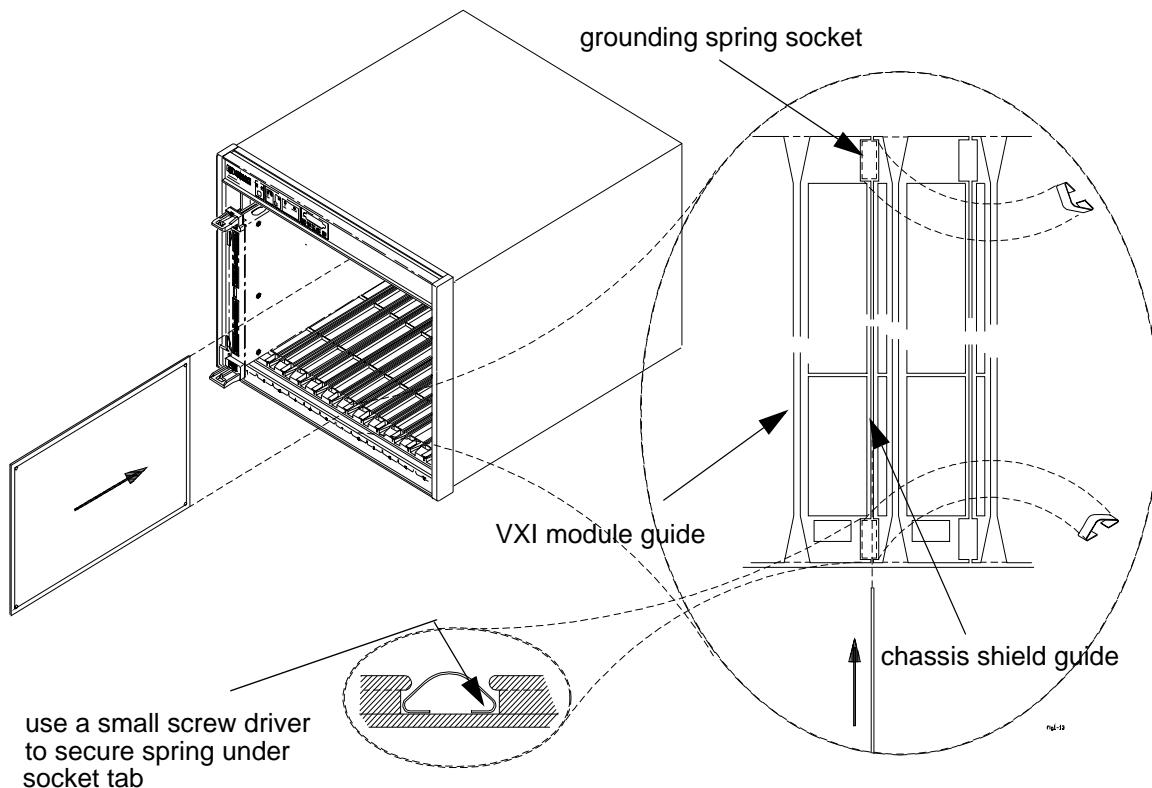

Figure 2-13. Installing the Grounding Springs and Chassis Shield
Each mainframe slot has top and bottom chassis shield guides (Figure 2-13). Chassis shields should be installed on both sides of an instrument generating interference/noise, or installed on both sides of a sensitive instrument.
1. Insert grounding springs into the four sockets (two top, two bottom) along the shield guides (Figure 2-13). Use a small flat blade screwdriver to secure each spring under the socket tab.